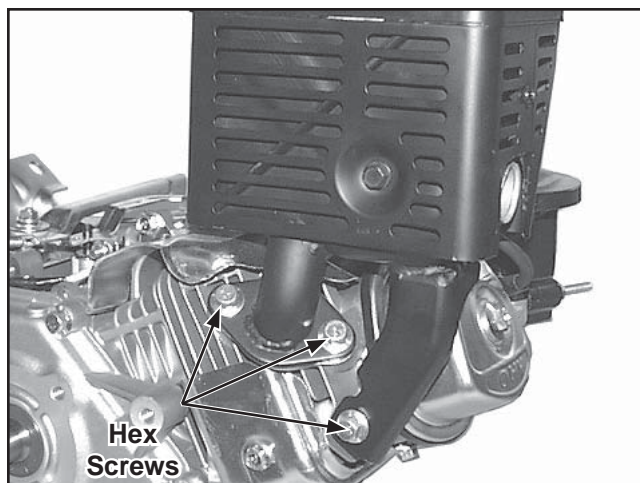

Figure 11-86. Install CH270 Muffler/Heat Shield Assembly.
2. Position the muffler and heat shield assembly and install one hex flange screw in the support bracket and two hex flange screws in the exhaust outlet flange. See Figures 11-86, 11-87, and 11-88.